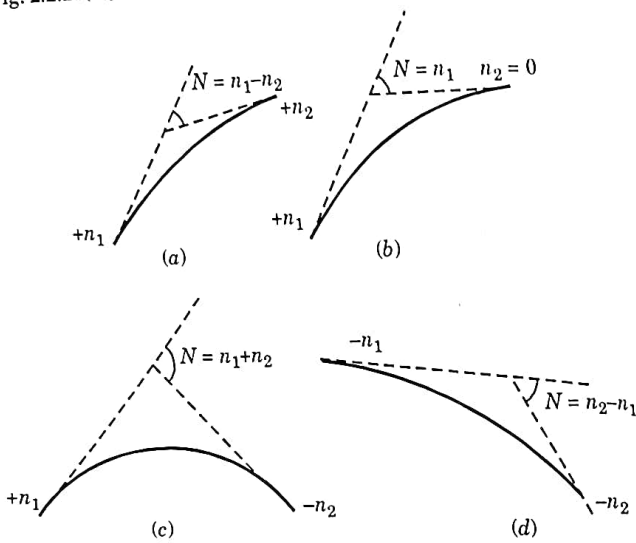

Fig. 2.29.1. Types of summit curves.
1. **Summit Curves :** These are vertical curves with gradient upwards. They are formed when two gradients meet as shown in Fig. 2.29.1.
- i. When a positive gradient meets another positive gradient [Fig. 2.29.1(a)].
- ii. When positive gradient meets a flat gradient [Fig. 2.29.1(b)].
- iii. When an ascending gradient meets a descending gradient [Fig. 2.29.1(c)].
- iv. When a descending gradient meets another descending gradient [Fig. 2.29.1(d)].